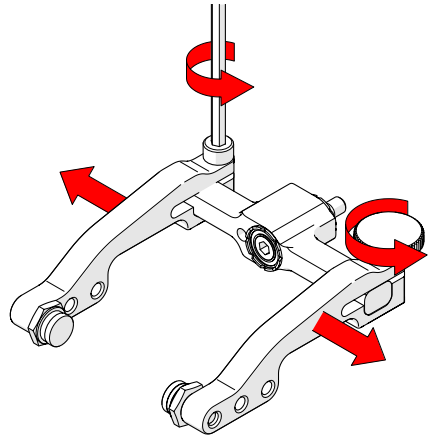

Fig. 82 - Remove arms
2. Loosen the probe holder arm adjustment knob and arm clamp screw. Slide the arms from the yoke (Fig. 82).